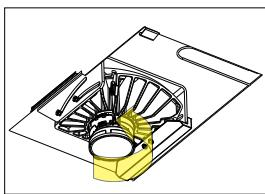

fig. 21
- Grab optic and twist counterclockwise to unlock. Pull toward you to remove (see fig. 21). If the optic cannot be removed by hand, a suction cup can be used.